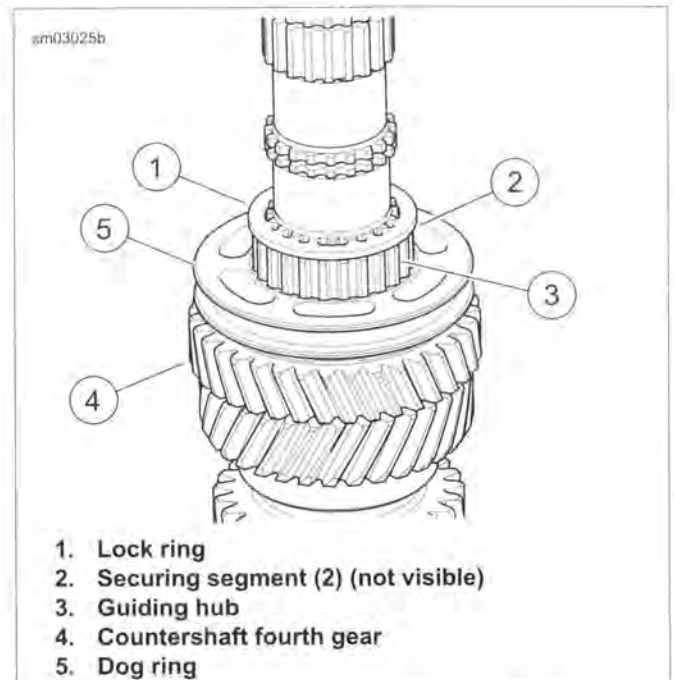

Figure 6-24. Countershaft Fourth Gear
See Figure 6-24. Note the direction that the fourth gear lock ring is installed.
1. See Figure 6-24. Install **new** needle bearing, countershaft fourth gear (4), guiding hub (3), dog ring (5) securing segments (2) and fourth gear lock ring (1) on countershaft.